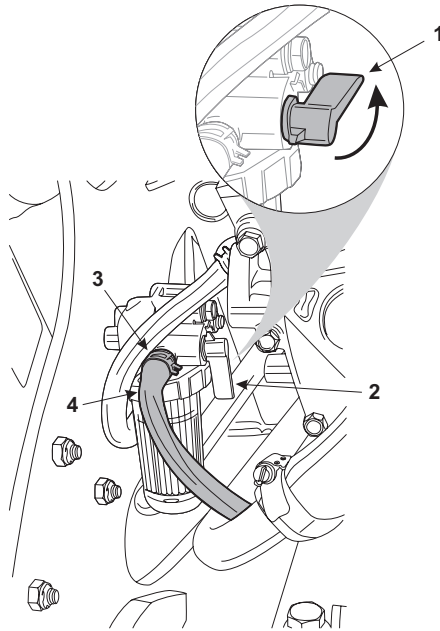

Figure 4-28 Fuel Line to Fuel Filter/Water Separator
4. Shut off the fuel valve on the fuel filter/water separator assembly (Item 1, Figure 4-28).
6. Loosen spring clamp (Item 3, Figure 4-28) on the incoming fuel line (Item 4, Figure 4-28) and slide the clamp along the fuel line away from the filter assembly.
10. Reinstall the fuel line (Item 4, Figure 4-28) and secure with the spring clamp (Item 3, Figure 4-28).